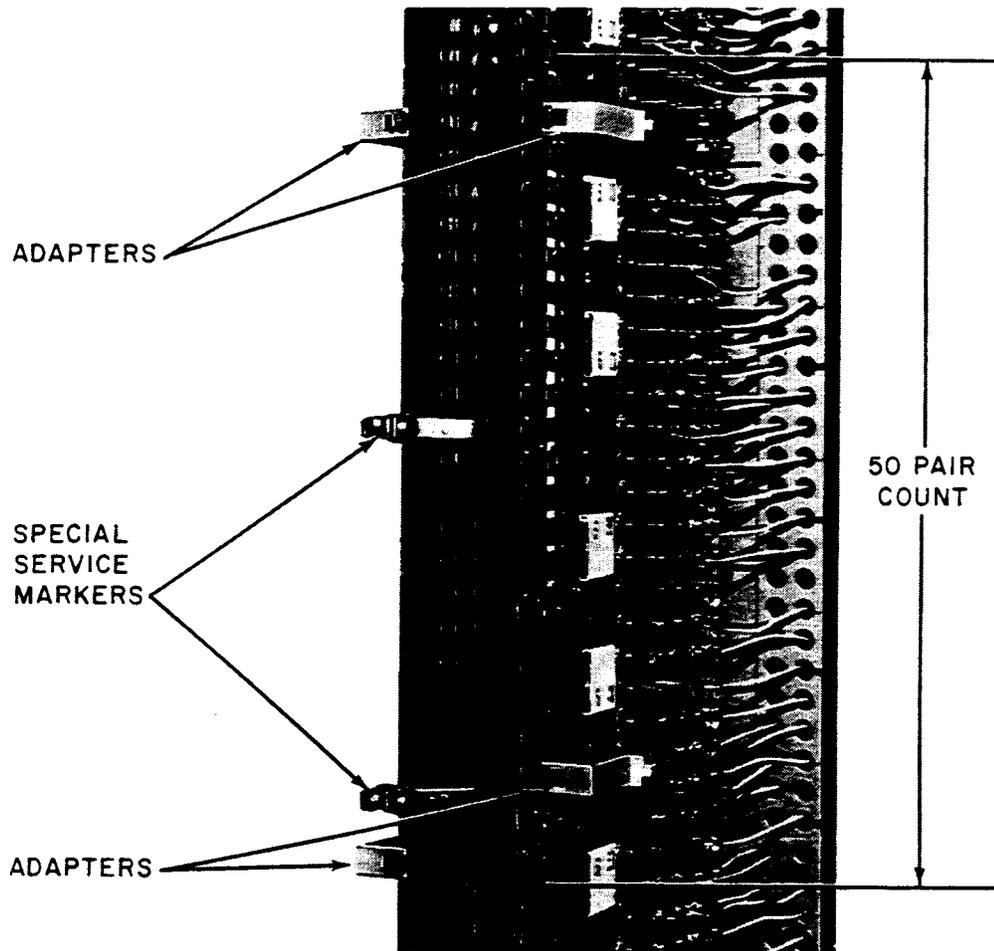

Figure 28—444C Jack
6.12 The 444C jack (Figure 28) terminates outside plant cables not requiring protection on double-sided protector frames and conventional distributing frames. These connectors do not accept protector